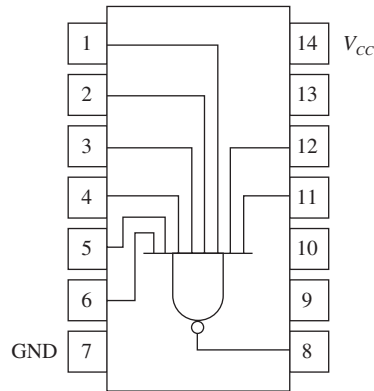

Figure P3-47
- T** 3-47. Your company has purchased several of the 7430 eight-input NANDs shown in Figure P3-47. List the steps that you would follow to determine if they are all good ICs.